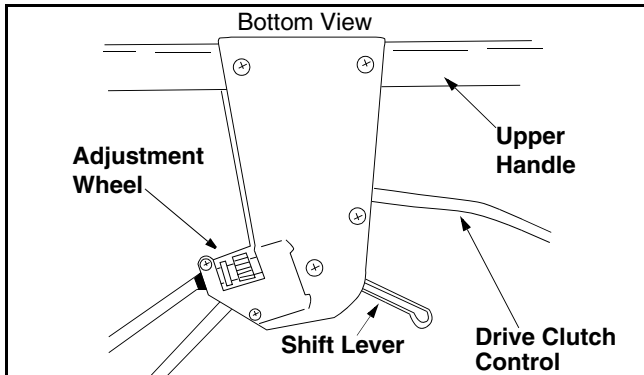

Figure 12
- To resolve the above problems, rotate the adjustment wheel with your fingers: clockwise to tighten the cable and counter-clockwise to loosen the cable. See Figure 12.